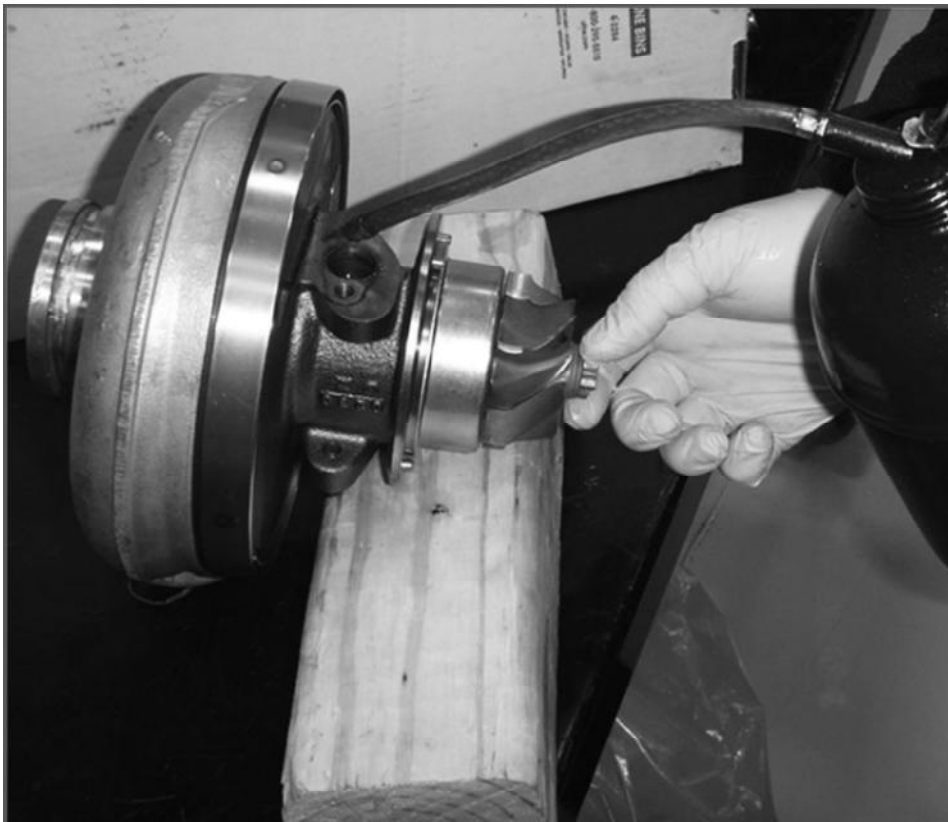

Figure 2.
2. While rotating turbocharger turbine wheel, add oil to turbocharger oil supply port until oil comes out drain port (Figure 2).